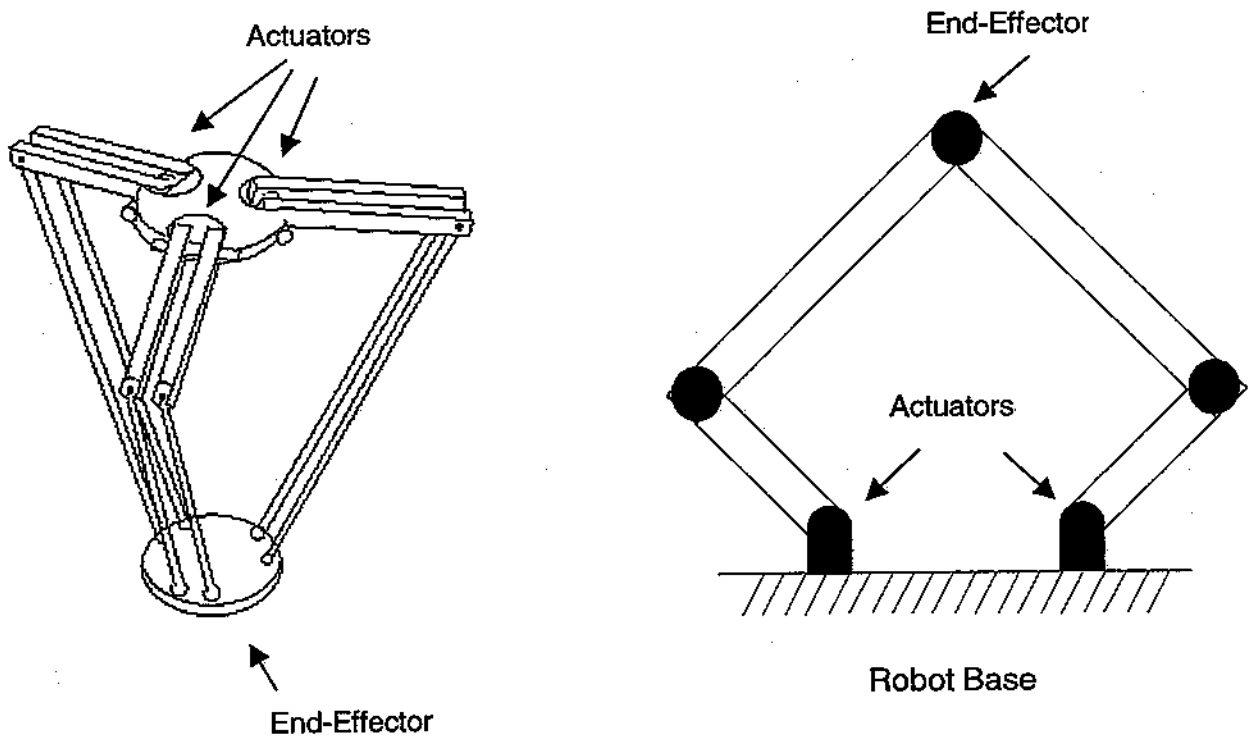

Figure 3. Two Robot Structures
3. Exam the following two structures in Figure 3, are they parallel robots? Why? How many DOF each robot has? (5 points)